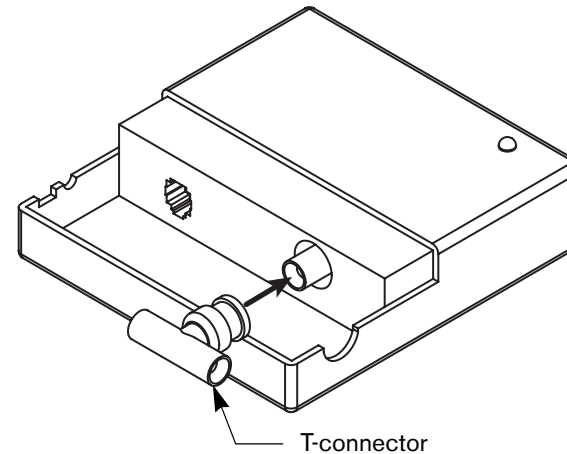

Figure 13: Connect T-connector to speed cabling later
3. To speed cabling later on, connect a T-Connector to each wired floor unit. See Figure 13.